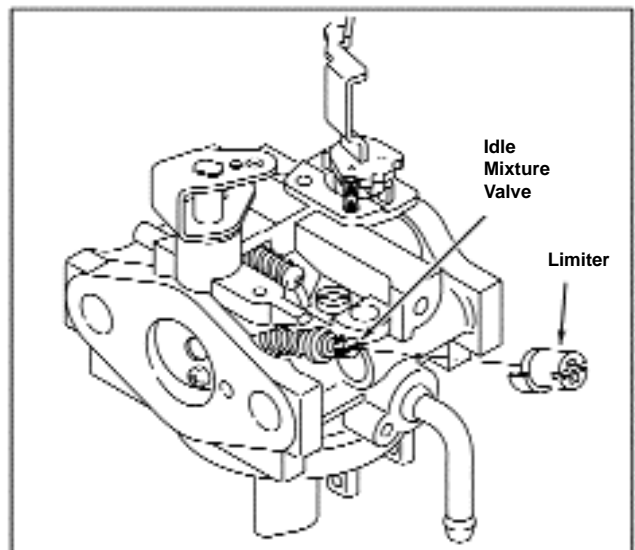

Figure 27 - Installing Idle Mixture Valve and Limiter
3. Then, back off valve 1-1/2 turns, Figure 27.